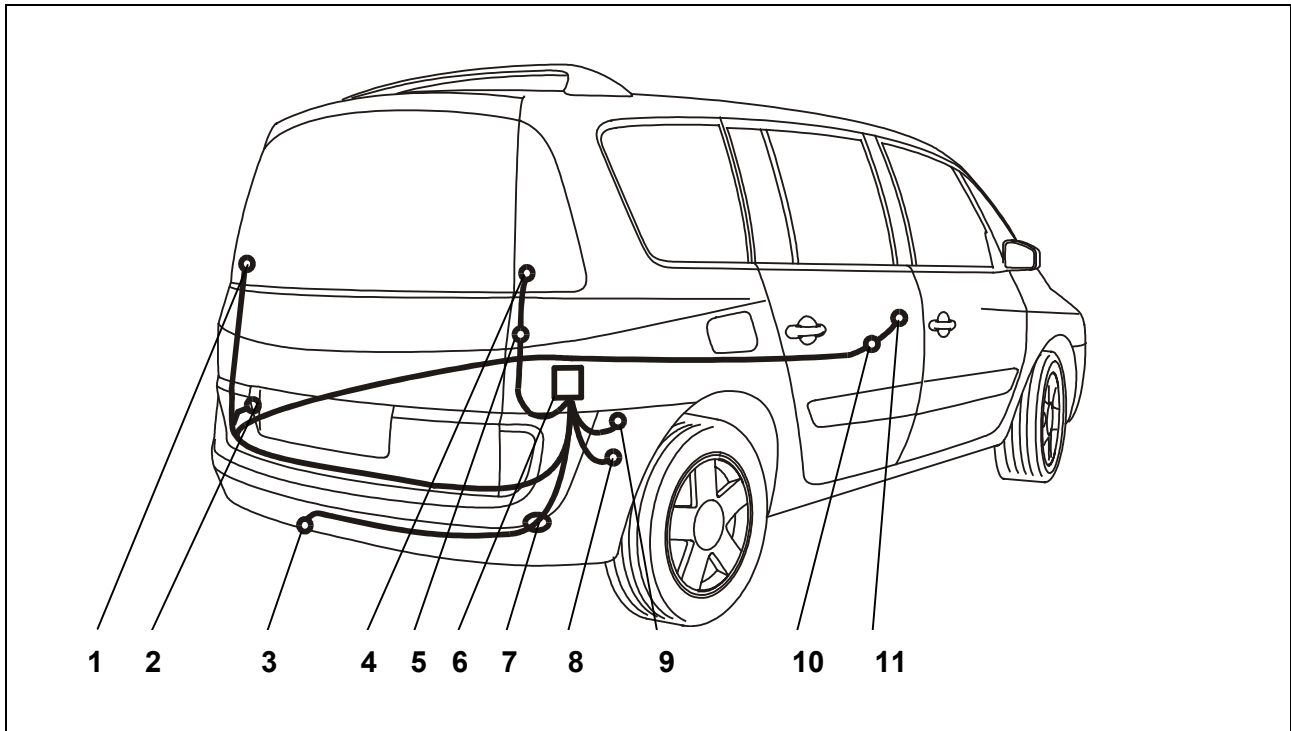

Fig. 1: Installation Overview
3. On vehicles with PDC bore a 19-mm-hole for the cable duct in a suitable place on the vehicle's rear end next to the already existing cable duct (Fig. 1/7).
On vehicles without PDC use the cable duct already existing on the right rear end of the vehicle (Fig. 1/7).
4. Starting in the luggage trunk, lead the socket end of the cable harness through the cable duct to the outside up to the socket holder plate (Fig. 1/3).
5. Fit the rubber grommet and insert it into the cable leadthrough (Fig. 1/7).
6. Fit the socket gasket and connect the cable harness to the socket housing in accordance with the *pin assignment plan* (Fig. 1/3) and push the rubber grommet against the socket.
7. Screw the socket onto the socket holder plate (Fig. 1/3) using the supplied screws and nuts.
9. Lead the cable end with the gray/red cable and the 5-fold plug-in packages to the right-hand tail light (Fig. 1/4).
11. Lead the cable end with the gray/black cable along the rear end plate to the left-hand tail light (Fig. 1/1).